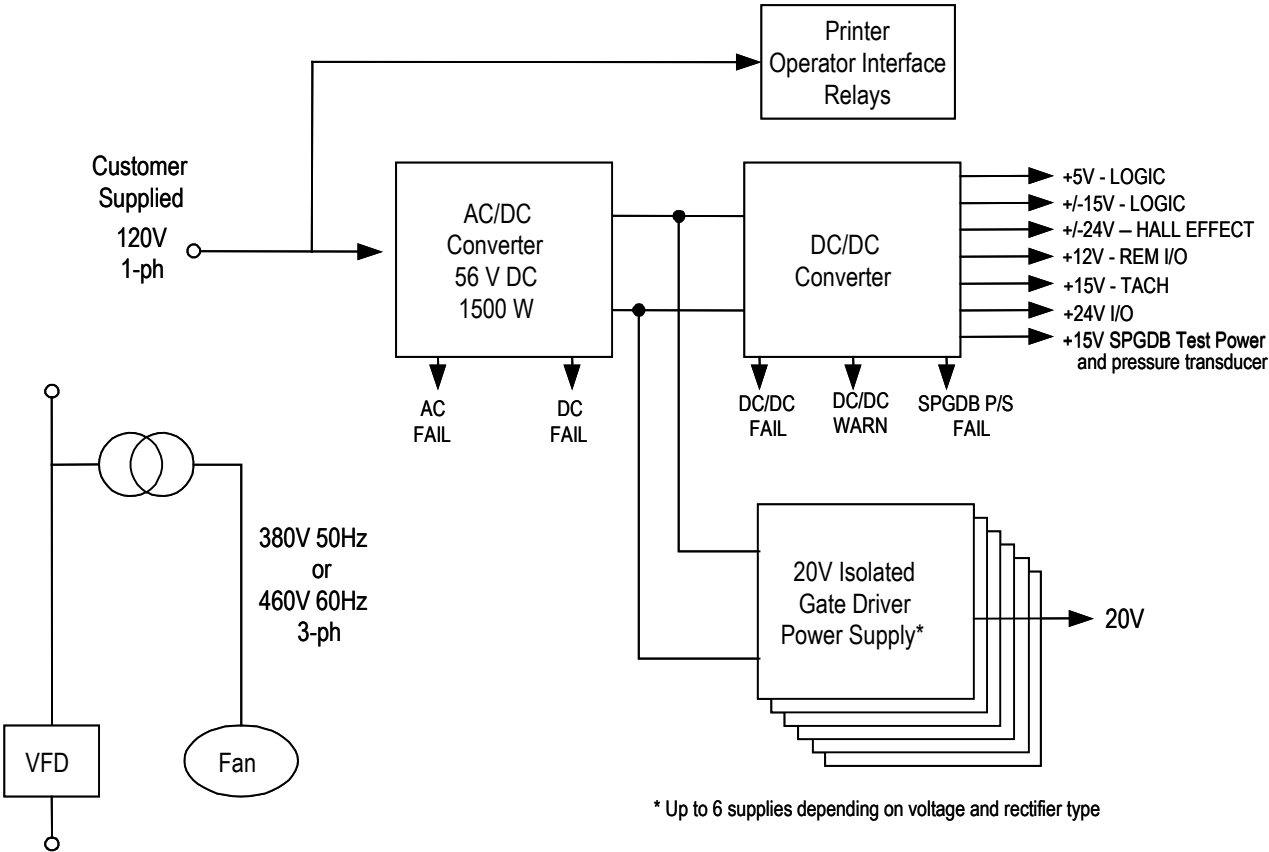

Figure 6.55 – 6-pulse/PWM Remote Transformer / Starter
2. Remote Transformer and Starter (refer to Figure 6.55)
3. Integrated Line Reactor Drive with Remote Starter (refer to Figure 6.55)
Figure 6.55 illustrates the control power distribution for 6-pulse and PWM drives with remote transformer/starter or integrated line reactor with remote starter.